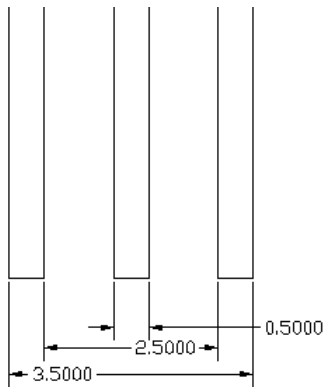

**Figure 14-29:** A set of continuous dimensions created with Quick Dimension.
3. At the *Specify dimension line position, or [Continuous/Staggered/Baseline/Ordinate/Radius/Diameter/datumPoint/Edit/Settings] <Continuous>:* prompt, right-click and choose the type of dimension you want to create. Figure 14-29 shows a set of continuous dimensions. The Datum Point option sets a new base point for baseline and ordinate dimensions. You can press Enter to use the type of dimension that you just used previously because that shows as the default. The command immediately creates the dimensions for you.